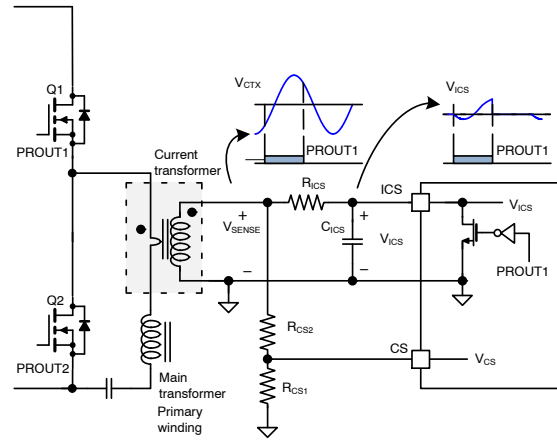
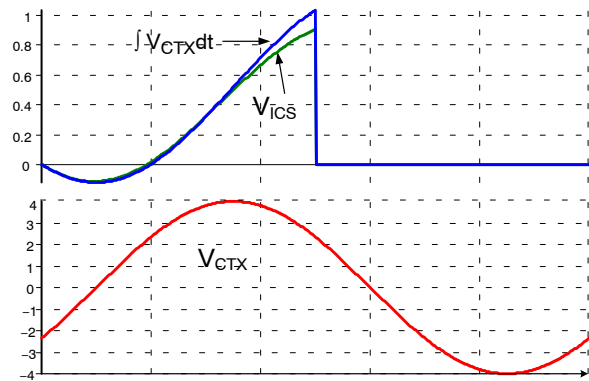
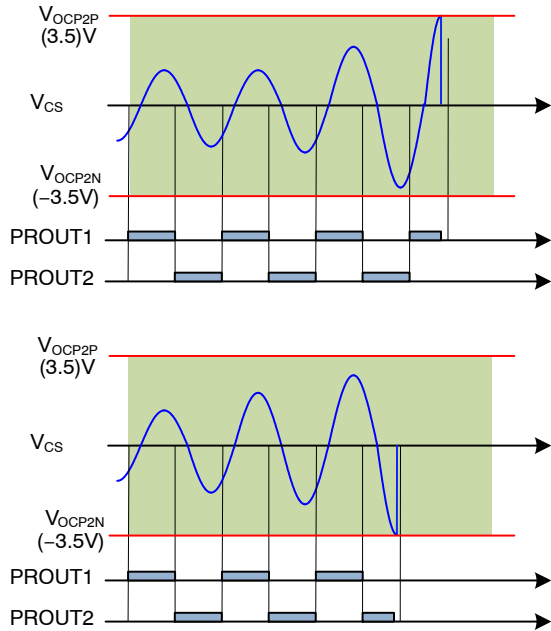

Figure 61. Current Sensing of NCP4390
Figure 62. Disable PWM mode with COMP Voltage
Figure 66. Over-Current Protection of the CS Pin
NCP4390 senses instantaneous switch current and the integral of the switch current as illustrated in Figure 61. Since NCP4390 is located in the secondary side, it is typical to use a current transformer for sensing the primary side current. While the PROUT1 is LOW, the ICS pin is clamped at 0 V with an internal reset MOSFET. Conversely, while PROUT1 is high, the ICS pin is not clamped and the integral capacitor (C_{ICS}) is charged and discharged by the voltage difference between the sensing resistor voltage (V_{SENSE}) and the ICS pin voltage. During normal operation, the voltage of the ICS pin is below 1.2 V since the power limit threshold is 1.2 V. The current sensing resistor and current transformer turns ratio should be designed such that the voltage across the current sensing resistor (V_{SENSE}) is greater than 4 V at the full load condition. Therefore the current charging and discharging C_{ICS} should be almost proportional to the voltage across the current sensing resistor (V_{SENSE}). Figure 62 compares the V_{ICS} signal and the ideal integral signal when the amplitude of V_{SENSE} is 4 V. As can be seen, there is about 10% error in the V_{ICS} signal compared to the ideal integral signal, which is acceptable for most designs. If more accuracy of the V_{ICS} is required, the amplitude of V_{SENSE} should be increased.
2. Over-Current Protection (OCP2): When V_{CS} is higher than 3.5 V or lower than -3.5 V, over-current protection (OCP2) is triggered. The instantaneous primary side current is also sensed on CS pin. Since the OCP2 thresholds on the CS pin are 3.5 V and -3.5 V as shown in Figure 66, the CS signal is typically obtained from V_{SENSE} by using a voltage divider as illustrated in Figure 61. 150 ns debounce time is also added for OCP2